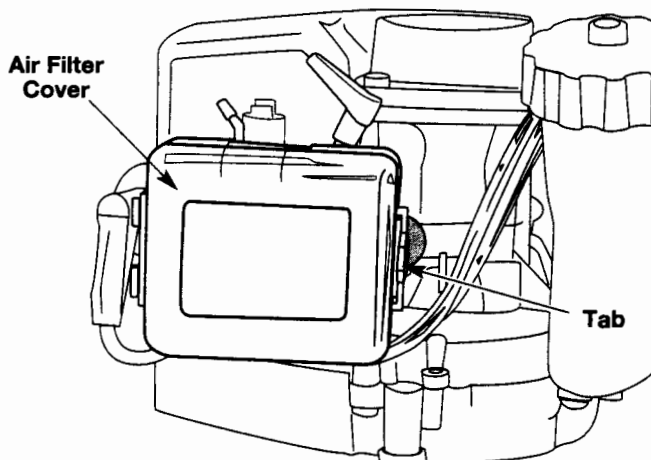

Fig. 7
1. Remove the carburetor/air filter cover by pushing on the tab, located to the right of the cover (Fig. 7).
7. Reinstall the filter and close the air filter cover (Fig. 7).